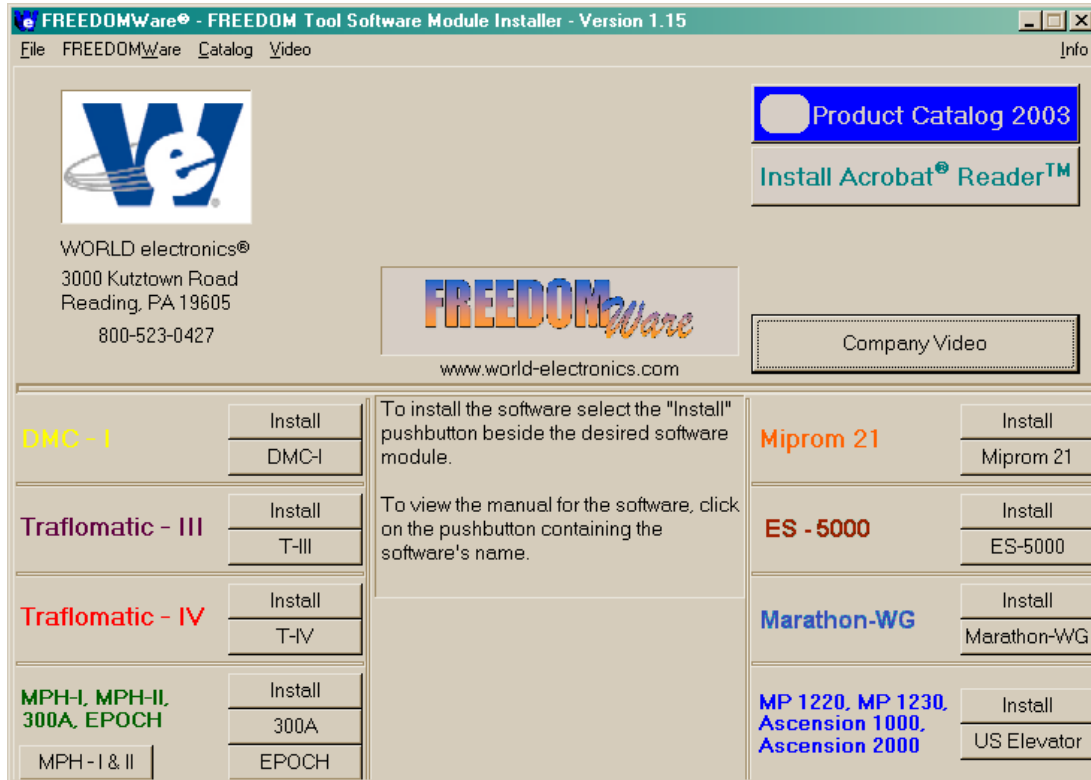

Figure 13
1. Insert the FREEDOMWare Installation CD into the Notebook PC's CD-ROM Drive. After approximately 10 seconds a window will appear titled **FREEDOMWare – FREEDOM Tool Software Module Installer**. Please refer to Figure 13.